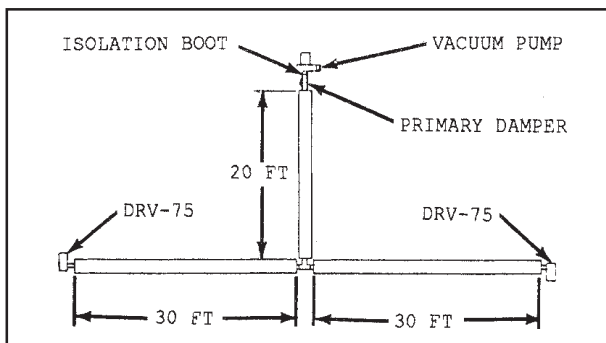

Figure 2.2
- A system containing two DRV-75 burners with equal lengths of radiant tube running to the vacuum pump from each burner. This system required only a primary damper as shown in Figure 2.2.